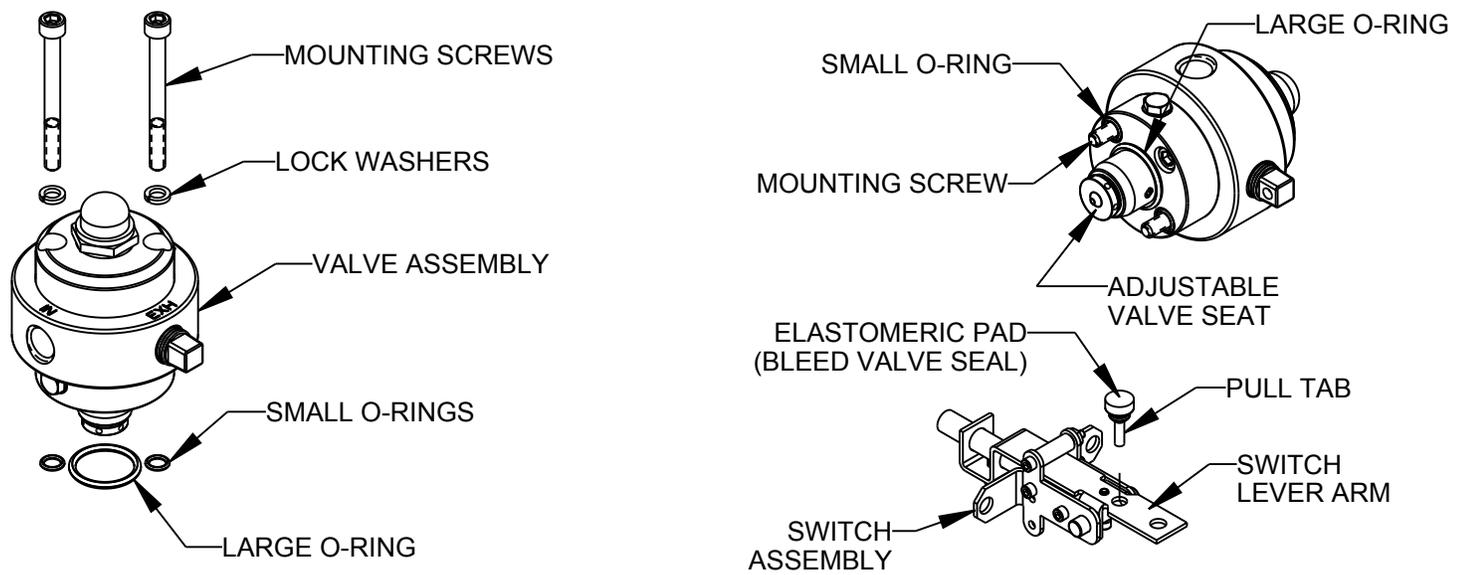

FIGURE 2
2. Install the new elastomeric pad bleed valve seal by inserting it into the hole on the switch lever arm as shown in figure 2 and pulling on the pull tab from the bottom side of the switch lever arm.
5. Slide the large o-ring over the adjustable valve seat portion of the valve as shown in figure 2.